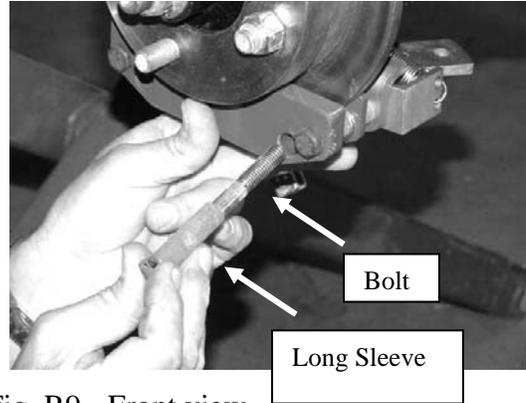

Fig. R9 - Front view
9. Install caliper onto rotor. Orient brake so that mounting holes line up with the brake mounting bracket. Brake lever actuation lever and spring are to be oriented toward back of vehicle. Cable bracket should be toward the front of vehicle and spring toward the rear. If not, you may have the left brake on the right side. (See Fig R9)